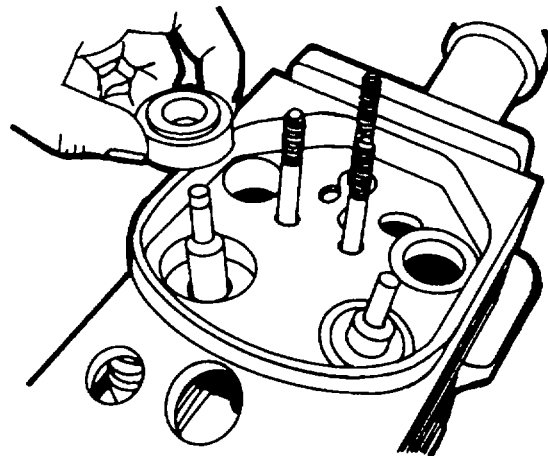

Figure 5-75. Installing Valve Rotators
6. Check whether the valve rotators work freely; renew, if necessary (figure 5-75).